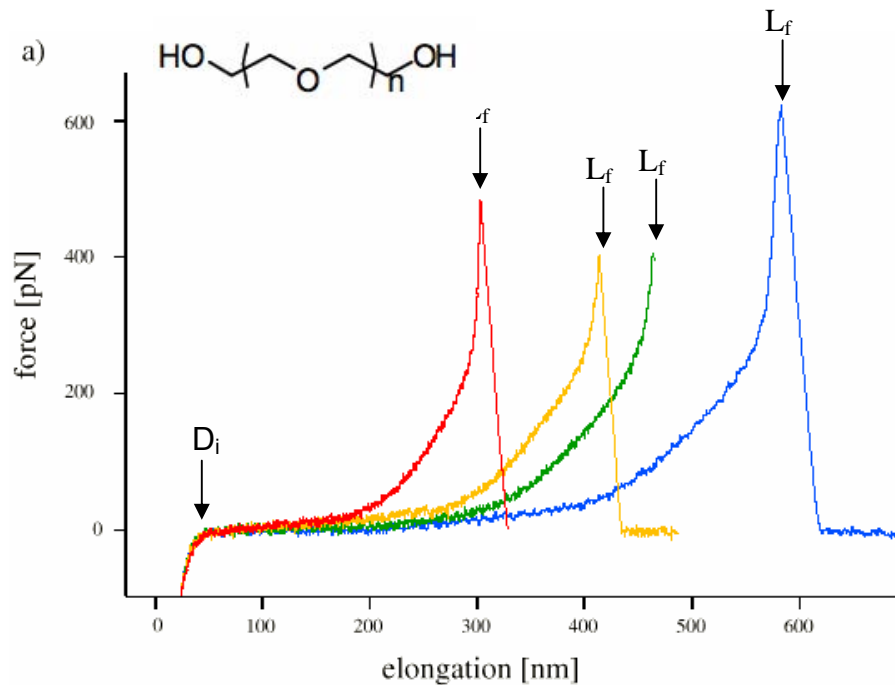

Figure 1.
1. **Single Macromolecule Force Spectroscopy.** (Data taken from: Oesterhelt, et al. *New J. Physics* 1 (1999) 6.1-6.11)). Figure 1 shows four different single molecule stretching experiments (each colored line is a different experiment) for poly(ethylene glycol) (PEG) chemically end-grafted to a planar surface taken with a “bare” unfunctionalized silicon nitride atomic force microscope in aqueous solution. L_f is the bridging polymer chain length = tip-sample separation distance at which the polymer detaches from the probe tip.
For the exam, any intermediate force value (e.g. 200 pN, e.g. intermediate elongations are $>0.5L_{\text{contour}}$ or so) could have been substituted into equation (1) to obtain the corresponding distance and then compare to the data in Figure 1.
(b) **Short Answer : Properties obtained from Force-Elongation curve (answer questions based on the data provided in Figure 1).**